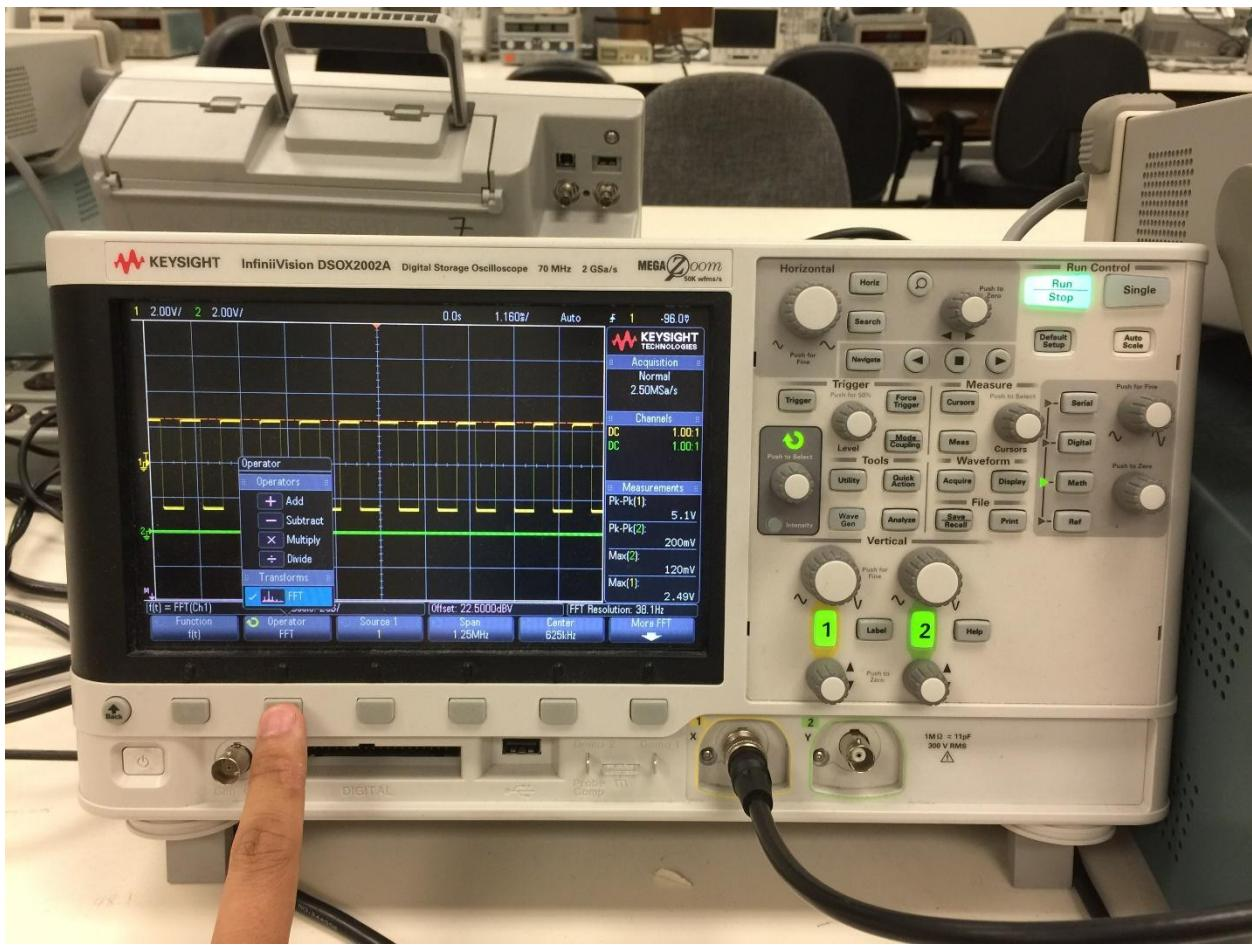
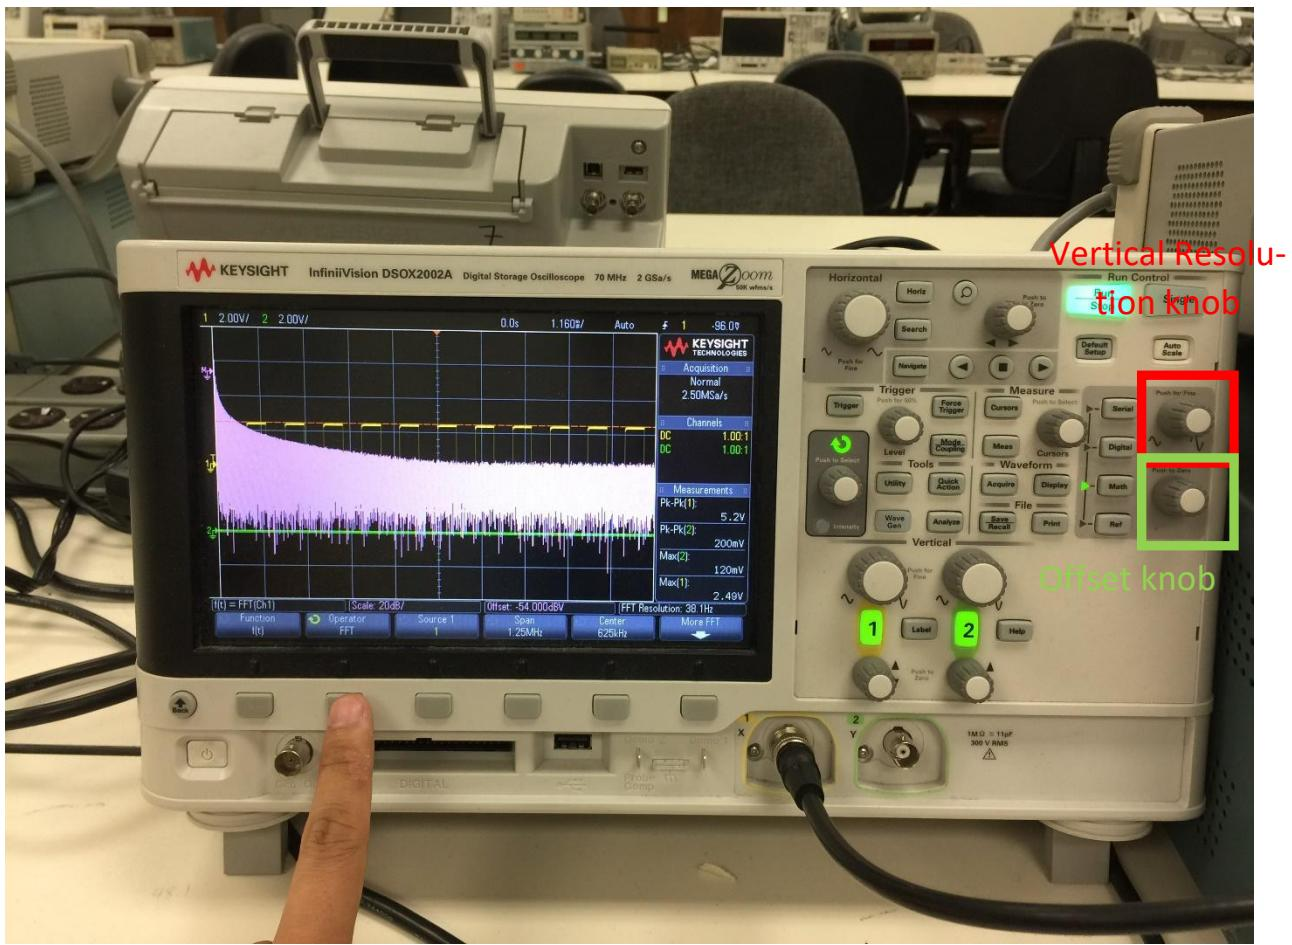

FIGURE 2-8a Choosing the FFT operator
FIGURE 2-8b The Initial Spectrum
4. On the oscilloscope, push the "Math" button and choose the "FFT" (fast-fourier transform, a mathematical transform that takes a signal from time domain to frequency domain, more details can be found in course ECE 102 and 113) operator (Figure 2-8a). Once you've done the above steps you should be seeing a picture similar to what's shown in Figure 2-8b.